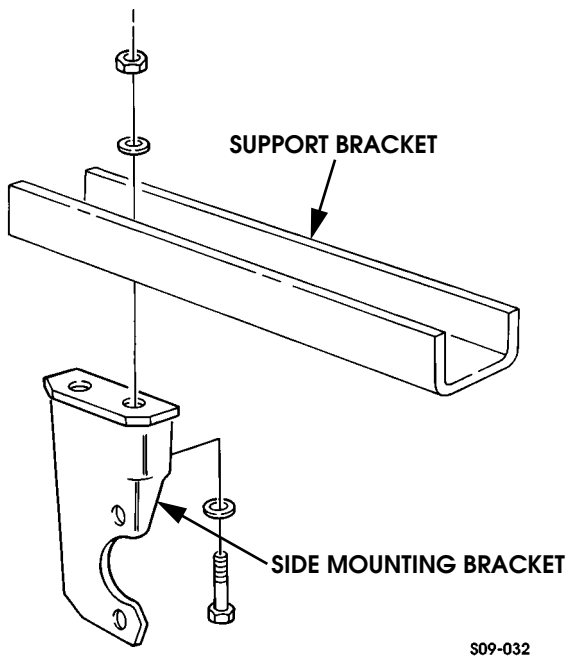

Figure 9-151: Support Bracket Replacement
6. Remove two locknuts, washers, bolts, washers, and side mounting bracket from support bracket (Figure 9-151).
1. Install side mounting bracket on support bracket with two washers, bolts, washers, and locknuts (Figure 9-151).